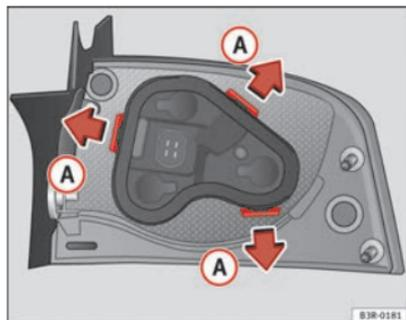

Fig. 212 Retaining tabs on reverse side of tail light
- Release the retaining tabs ⇒ Fig. 212 (A).